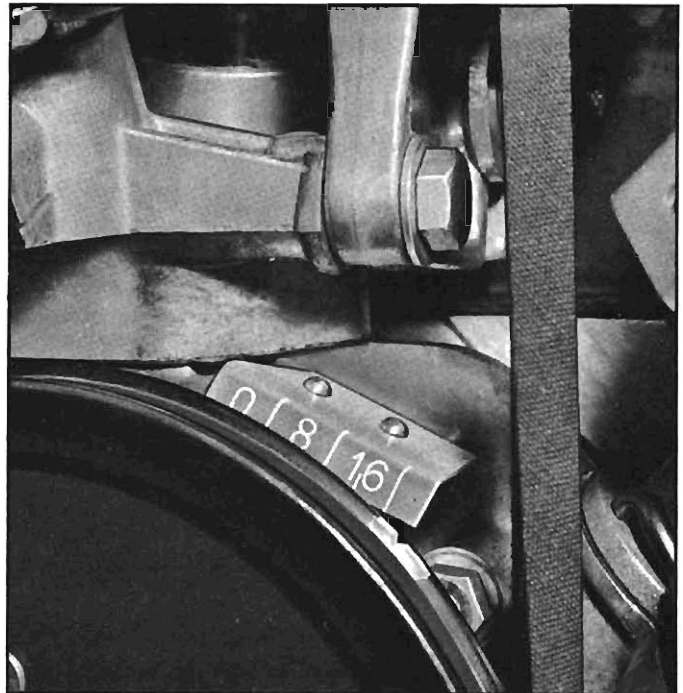

Fig. 30—Ignition Timing Setting
3. Aim timing light at timing tab (fig. 30) above crankshaft pulley and adjust timing to 24° advance by turning distributor the same manner as on regular Corvair engine.